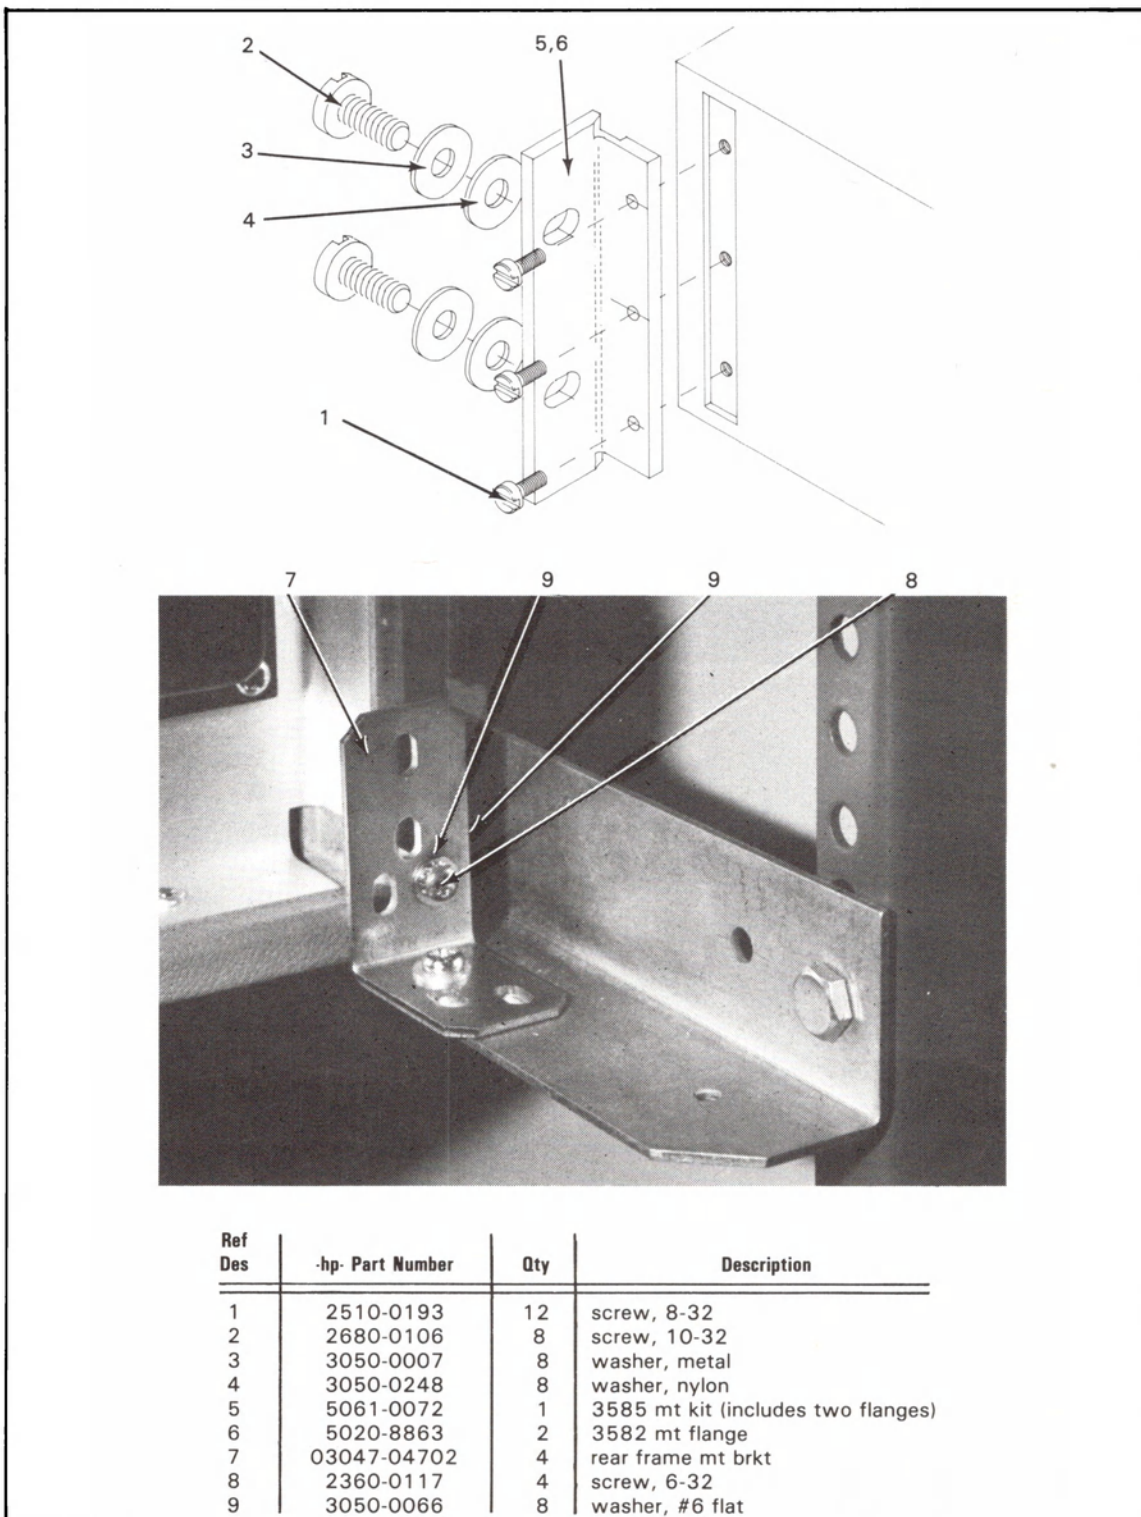

Figure 2-7. Instrument Installation Hardware
The following instructions provide the information necessary to mechanically install the -hp- 3585A and the -hp- 3582A into the -hp- 3047A System cabinet. All of the hardware necessary for installation is either attached to the instrument, or the system cabinet; this hardware is illustrated in Figure 2-7.
4. Attach the rack-mount flanges to the sides of the -hp- 3585A using the screws removed in step 1. Be sure to put the washers in the appropriate places as shown in Figure 2-7.
6. Secure the instrument into the system cabinet with the rack-mount flanges using the screws removed in step 3. Be sure to put the washers in the appropriate places as shown in Figure 2-7.
7. Attach the rear frame mounting brackets to the rear panel of the -hp- 3585A as shown in the photograph in Figure 2-7. Use the screws removed in step 2.
4. Attach the rack-mount flanges to the sides of the -hp- 3582A using the screws removed in step 1. Be sure to put the washers in the appropriate places as shown in Figure 2-7.
7. Attach the rear frame mounting brackets to the rear panel of the -hp- 3582A as shown in the photograph in Figure 2-7. Use the screws removed in step 2.